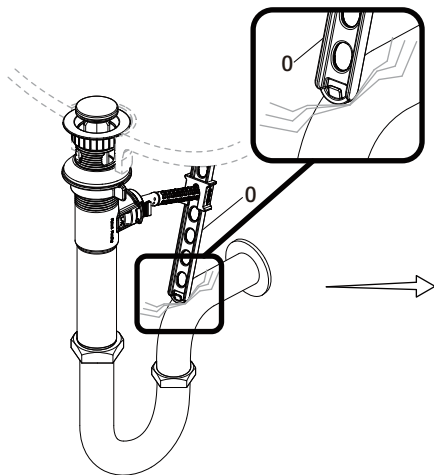

Fig 1
- If the pop up lift rod strap (O) is interfering with your installation, as shown in the Fig 1, the lift rod strap (O) can be cut shorter.